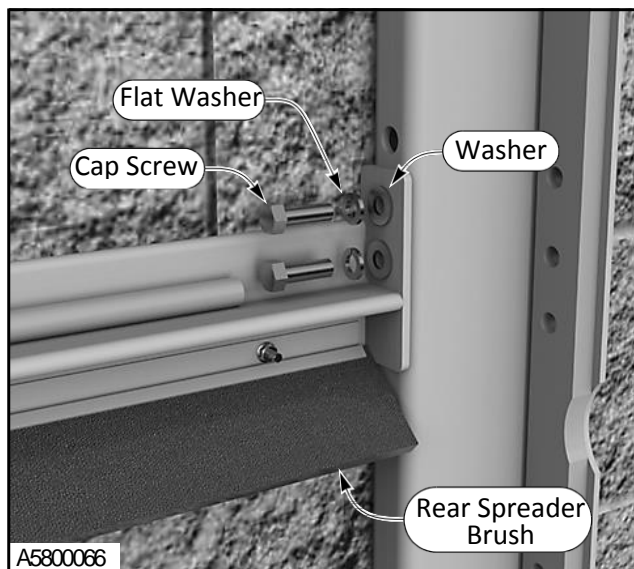

Figure 13
- a. Install rear spreader assembly between the two side columns using four $\frac{1}{2}$ x $1\frac{1}{2}$ -in. hex head cap screws, $\frac{1}{2}$ -in. lock washers, and $\frac{1}{2}$ -in. flat washers. (See Figure 13)